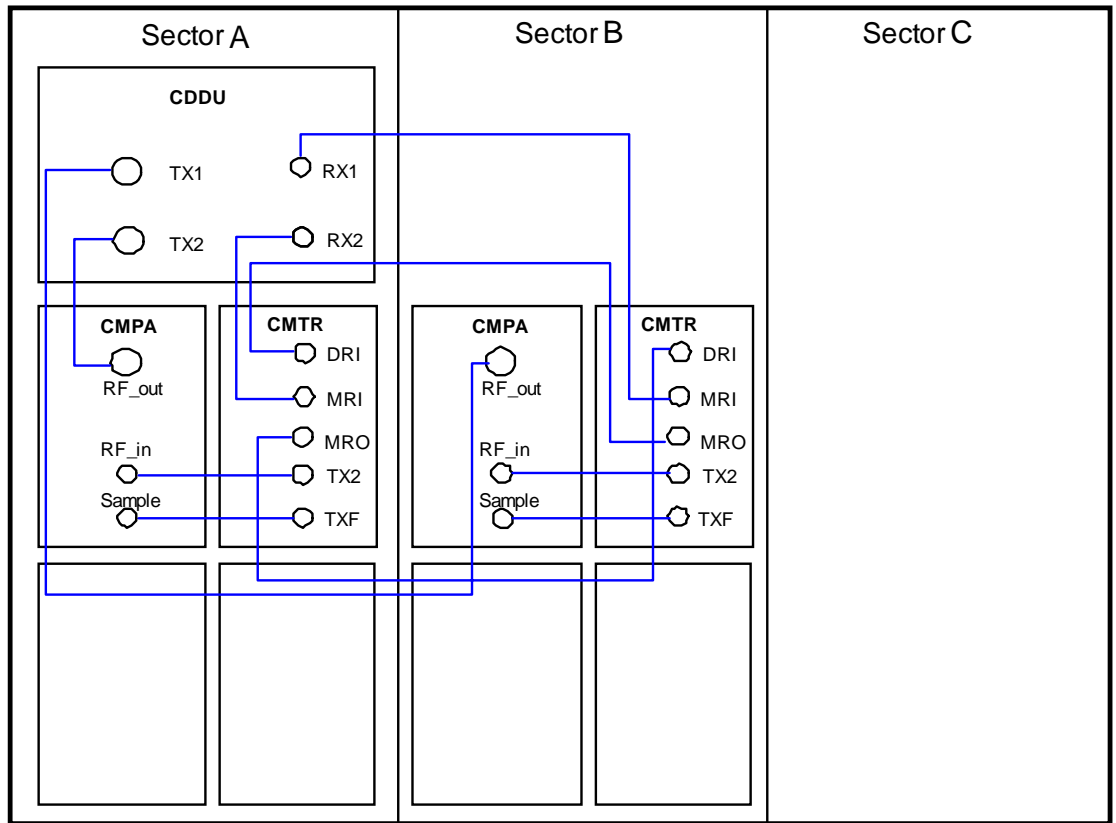

Figure 4-8 O(2) configuration
The O(2) refers to an omni cell with two carriers. Figure 4-8 shows RF cable connections, indicated by blue lines.